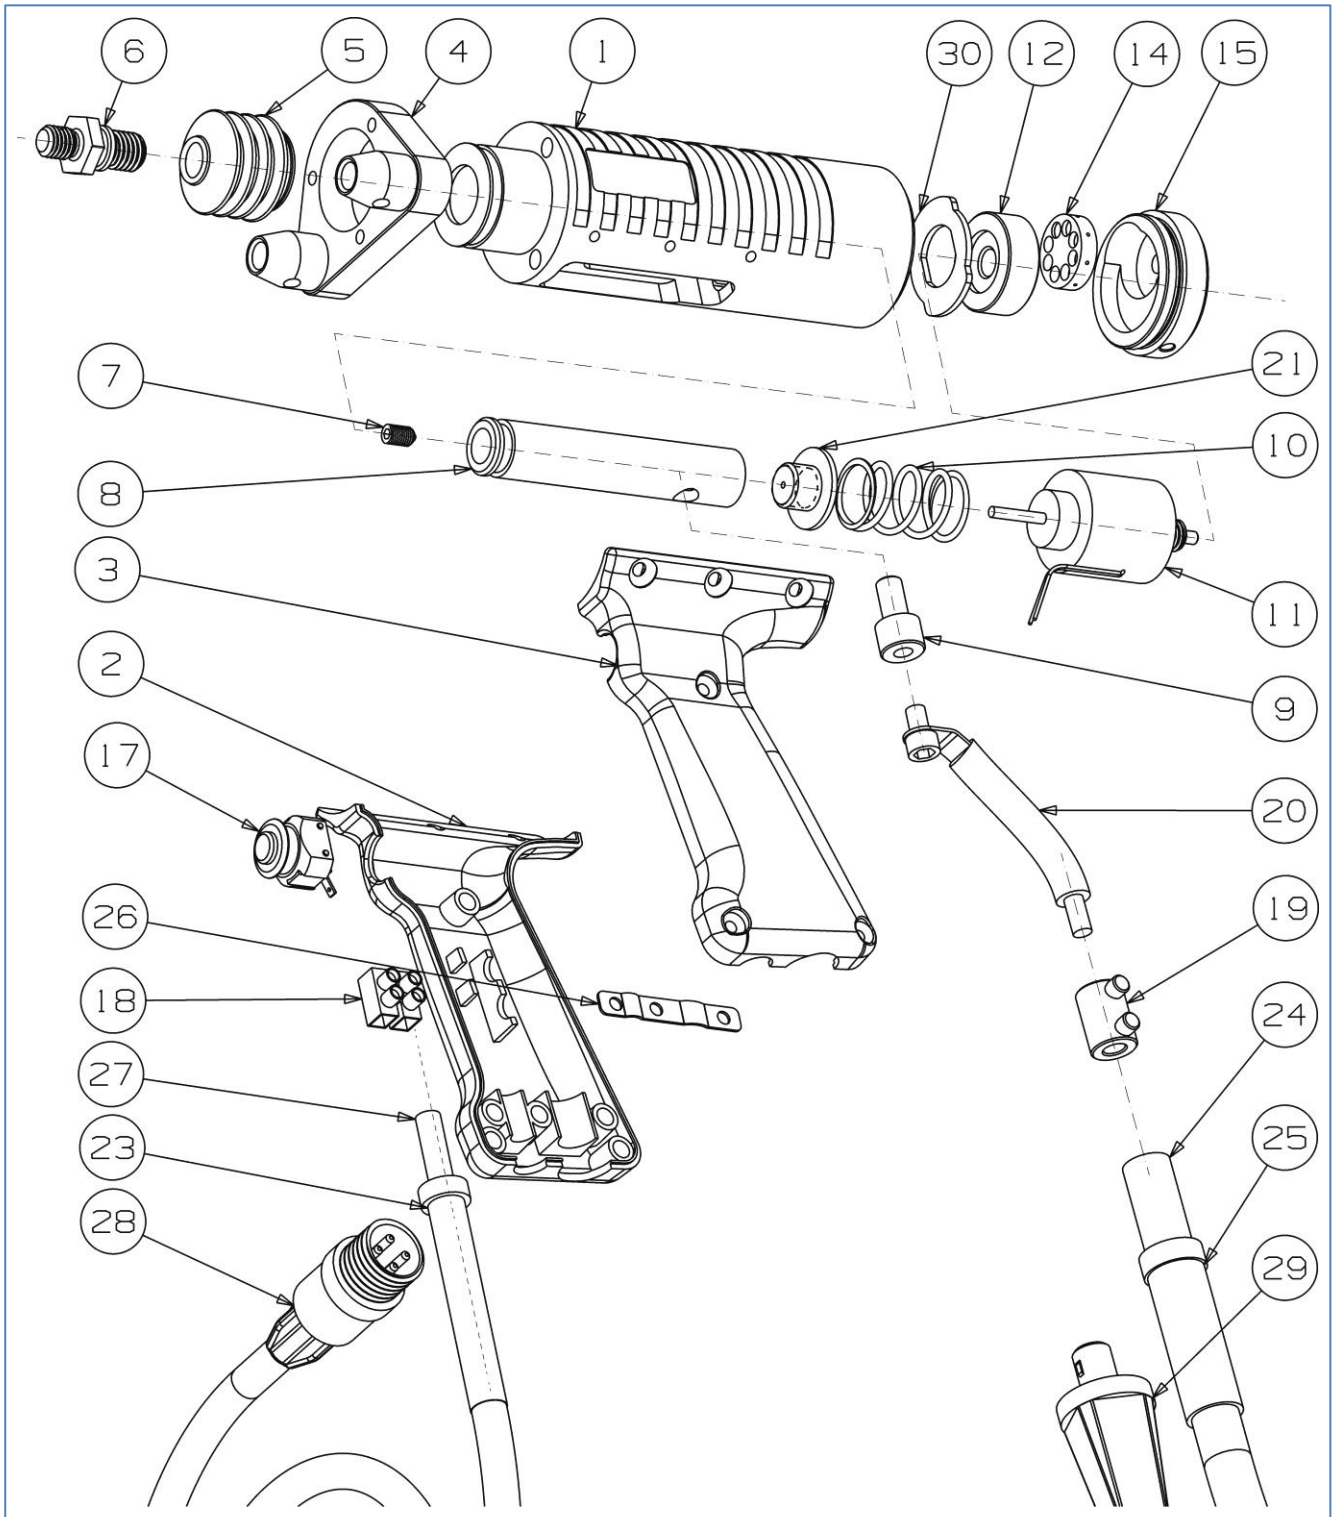

Figure 12: Exploded view of gun SK 15
13. The damper can be completely removed, if necessary, and the drill hole where it is inserted closed with a locking screw (see Fig. 12). When the damper is screwed back in, it is important to set the distance L between the installation plate and the upper edge of the damper according to table 2 (Fig.7). The damper must be fastened in this position using the counter nut included in the delivery.